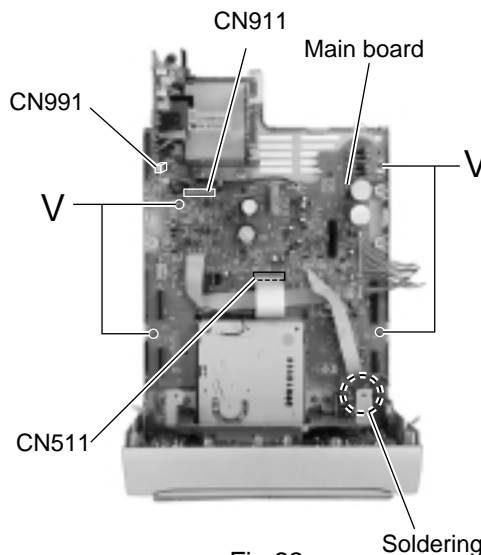

Fig.22
■ Removing the Main board (See Fig.22)